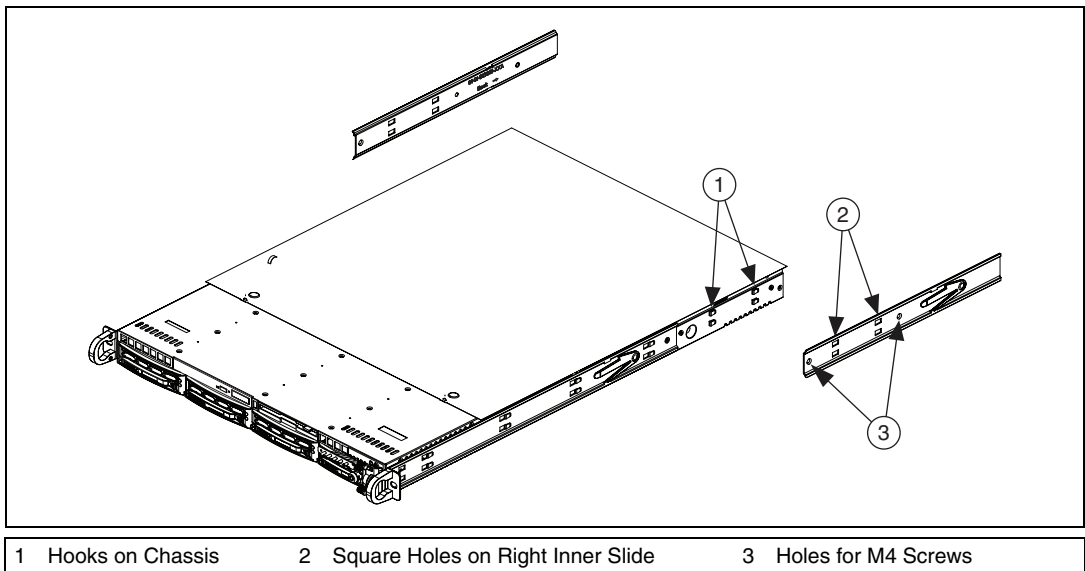

Figure 2-1. Installing Inner Slides
2. Align the four square holes on the right inner slide against the hooks on the right side of the chassis, as shown in Figure 2-1.